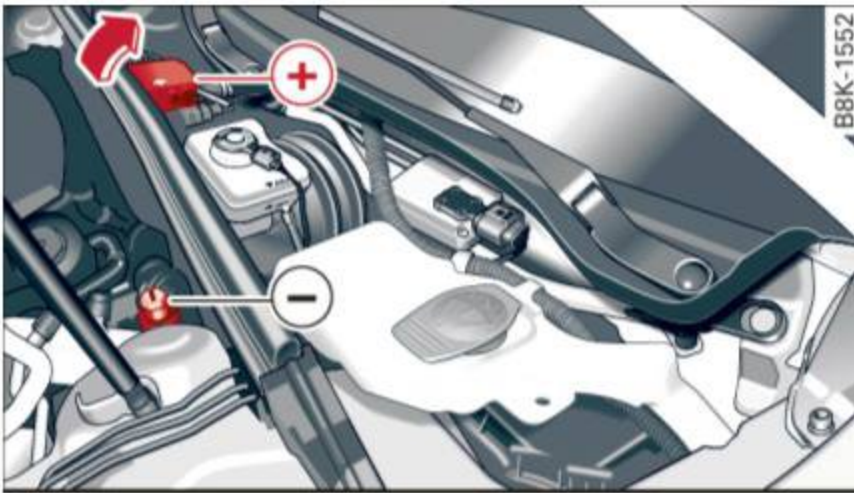

Fig. 185 Engine compartment: Connectors for jumper cables and charger
- ▶ Open the cover on the positive pole ⇒ *fig. 185*.